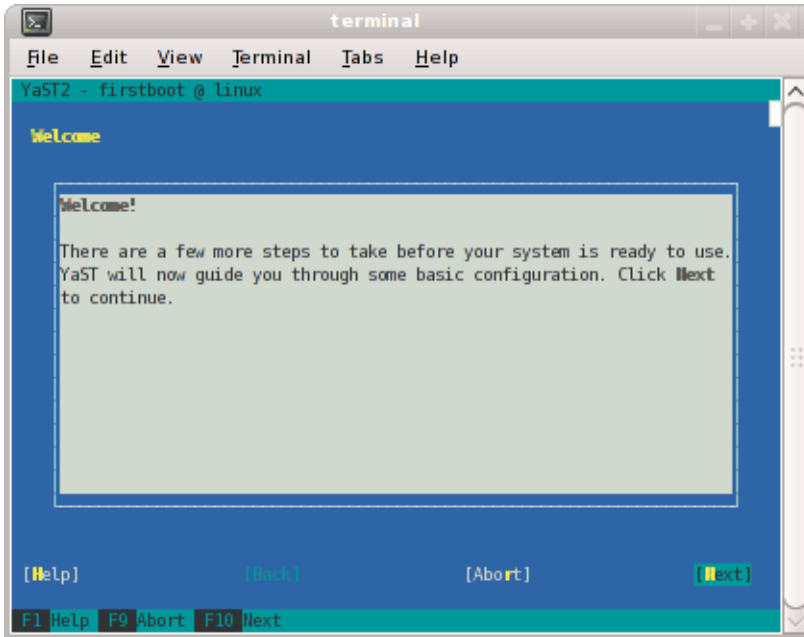

Figure 2-9 YaST2 - firstboot@Linux Welcome Screen
2. After the reboot completes from the first five steps you followed in the SLES10 Admin Node Installation instructions, you will eventually see the **YaST2 - firstboot@Linux Welcome** screen, as shown in Figure 2-9 on page 46. Click on the **Next** button to continue.